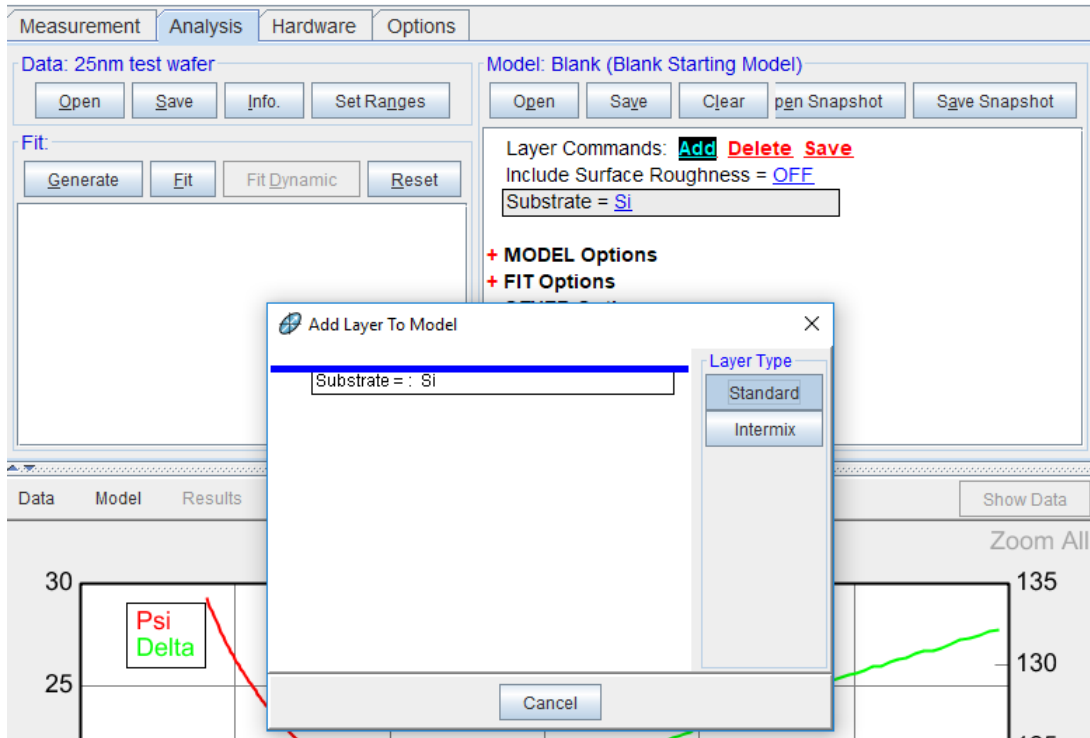

Figure 5: for step 8.2
- 8.2) In Layer Commands, click ‘Add’. In the prompt window, click above the substrate (Figure 5)